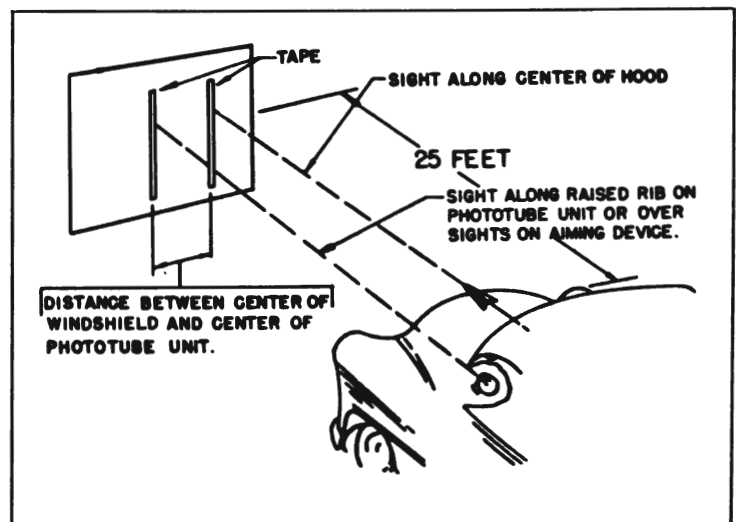

Figure 10-60—Horizontal Aiming
- (a) Locate car approximately 25 feet from a vertical wall or screen. See figure 10-60.